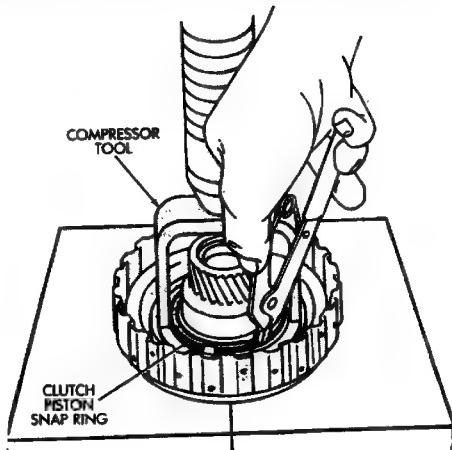
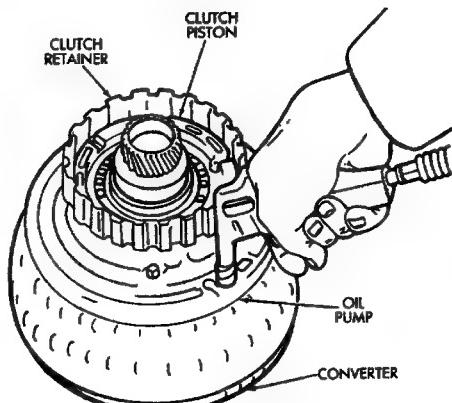

Fig. 8 Removing Clutch Piston Snap Ring
Fig. 9 Removing Overdrive Clutch Piston
(5) Replace clutch pack retainer if stroke length is incorrect. Refer to chart in Specifications section for replacement retainer thicknesses.
(6) Remove clutch pack snap ring and remove the clutch pack.
(7) Compress piston return spring with tool B.Vi. FM. 27 and shop press and remove piston snap ring (Fig. 8).
(8) Remove compressor tool and piston return springs.
(9) Mount oil pump on converter. Then mount clutch on oil pump (Fig. 9).
(10) Hold clutch piston by hand and apply compressed air through oil pump feed hole to ease piston out (Fig. 9). Apply only enough air pressure to remove piston.